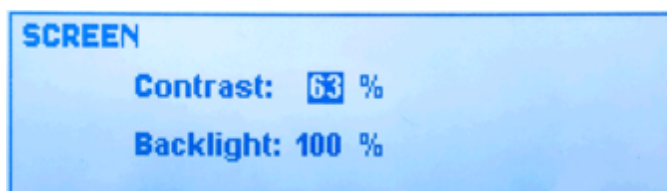

Fig.4.3.7
1. **Contrast:** the LCD contrast; adjustable from 30...100% – Fig.4.3.7
2. **Backlight:** the LCD brightness; adjustable from 10...100% – Fig.4.3.7